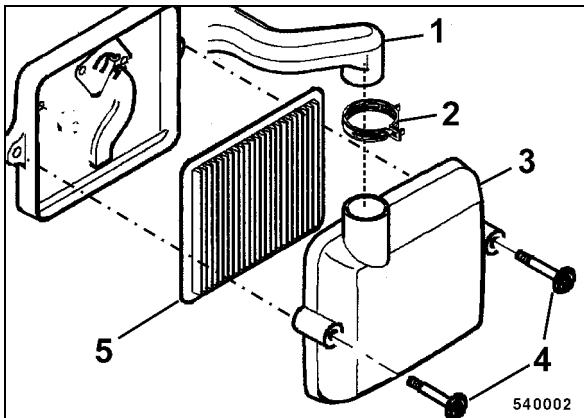

Fig. 81
- Loosen hose clamp (2) (Fig. 81) and pull the air supply hose (1) off the air filter housing.
- Unscrew two fastening screws (4) and remove cover (3) from the air filter housing.
- Take the air filter (5) out of the housing.
- Assemble the air filter (5) (Fig. 81) and tighten the cover (3).
- Connect the air guide hose (1) to the air filter housing and tighten the hose clamp (2).